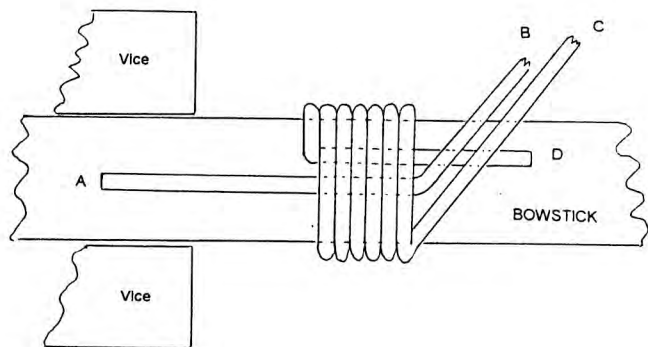
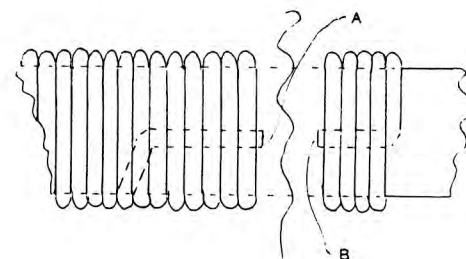

Figure 1
Figure 2
Mark the bow stick with a pencil to show the relaxed position of the frog and the other end the lapping which is normally 75mm from the frog. Take 30cm of blond lapping and 90cm of black lapping. Grip the bow stick in your vice with the leather covered jaws so that the mortice is facing upwards and the end of the stick is free of the jaws with the portion to be lapped. Looking at Figure 1 take the blond lapping and fix the end to the vice jaws using masking tape or Selotape with the long end (A) laying the bow stick toward the frog. Take the black lapping (D) and lay about 20mm along the stick parallel to the blond lapping. Wind the loose end of the black lapping around the stick tightly over itself and the blond lapping so that the loose end is facing the vice. Continue this for 6 turns and then take up the blond lapping (B) with the black lapping (C) and wind the 2 lappings round the stick ensuring that they run alternately and smoothly without any gaps between them. Looking at Figure 2 continue this until the lappings are within 20mm of the frog mark and then hold the blond lapping (A) parallel to the stick and